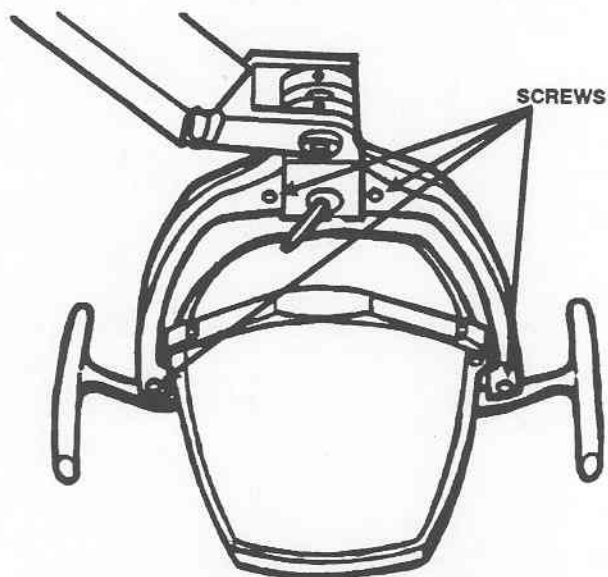

Figure 3-9. Light yoke disassembly.
- (1) Disconnect electrical power from the unit.
- (2) Disassemble the light yoke by removing the four screws (fig 3-9).